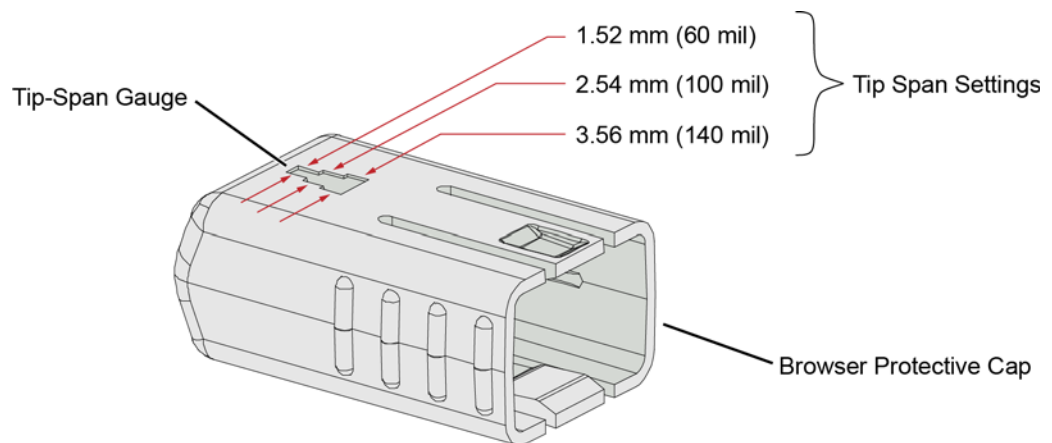

Figure 35 Tip Span Gauge on Browser Protective Cap
- 2 Locate the tip-span gauge on the browser's protective cap as shown in **Figure 35**.